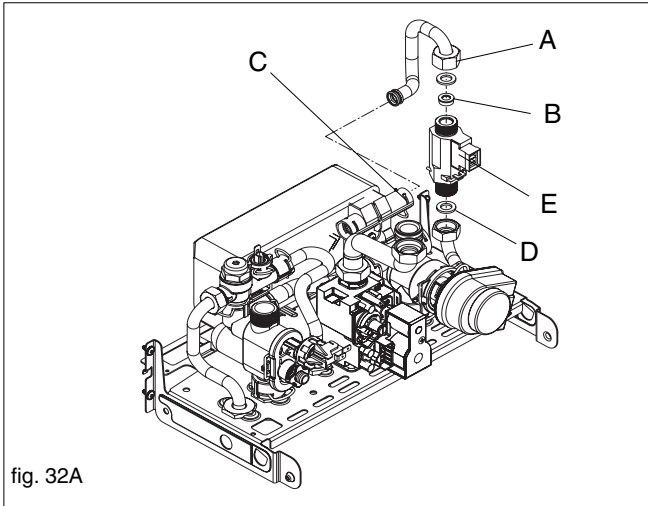

fig. 32A
6.20.1 DHW FLOW RESTRICTOR (fig. 32A)
6.20.2 DHW FLOW SWITCH (fig. 32A)